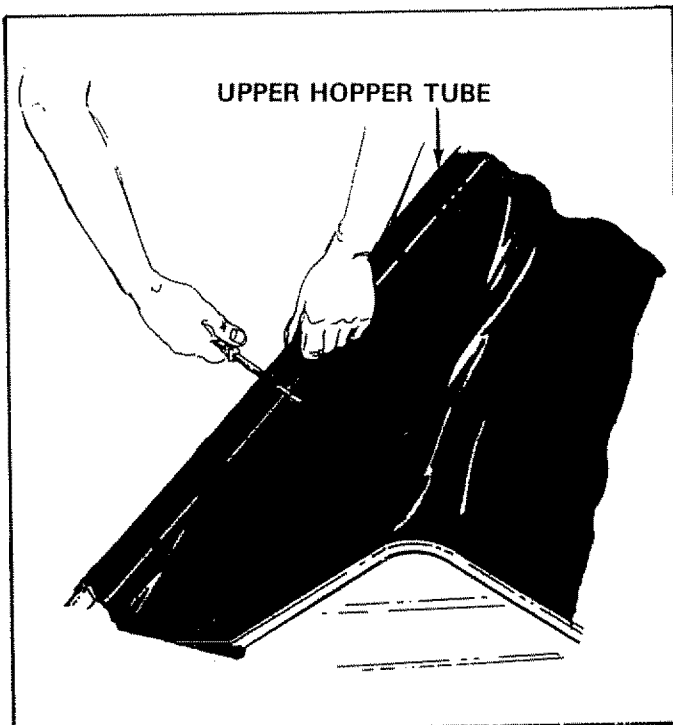

FIGURE 19
11. Locate hole along side of upper hopper tubes and pierce a hole through the bag aligned with the hole in the tube. See figure 19.